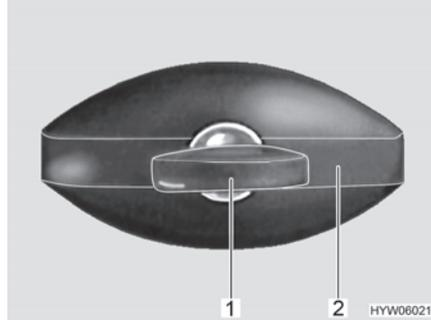

Fig. 36 Flap lock (elliptical-shaped, closed)
- Insert key into locking cylinder (Fig. 36,1) and turn a quarter turn in an anticlockwise direction. The lock handle (Fig. 36,2) snaps out.